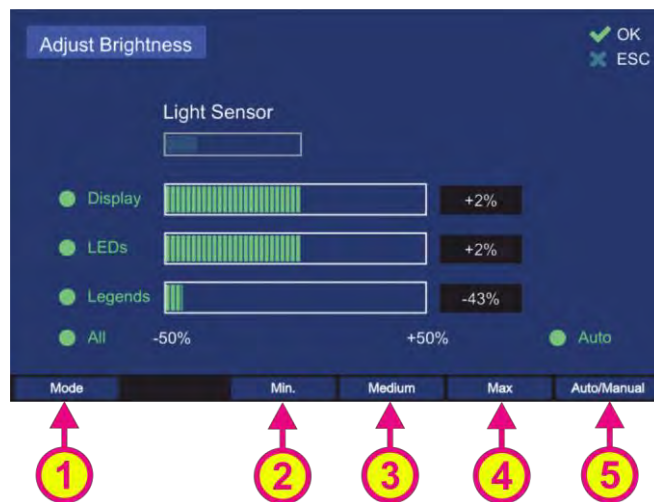

Figure 147 "Adjust Brightness Dialog"
- o Use hotkey “Mode” (s. Figure 147, number 1) to select between:
- o Use the hotkey “Min.” (s. Figure 147, position 2), “Medium” (s. Figure 147, position 3) and “Max.” (s. Figure 147, position 4) in order to set the appropriate luminosity.
- o Use the hotkey “Auto/Manual” (s. Figure 147, position 5) in order to set auto or manual luminosity adjustment mode.